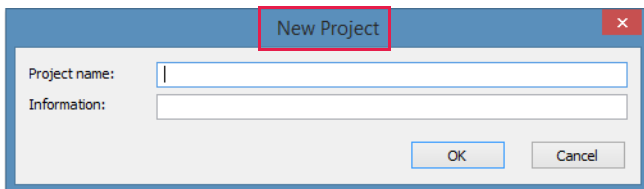

Figure C-18: New Project Dialog Box
2. Select **New Project** to display the New Project dialog box (Figure C-18).